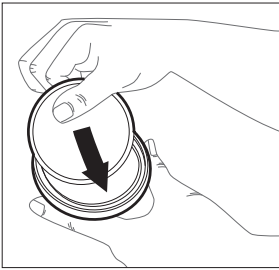

Figure 1
- a. Place each filter into the filter cover, paying attention to the instructions on the filter "this side towards face" or "this side away from face". (Figure 1).
- b. Place each filter into the filter cover (P/N N750027), paying attention to the instructions on the filter "This side towards face" or "This side away from face". (Figure 1).